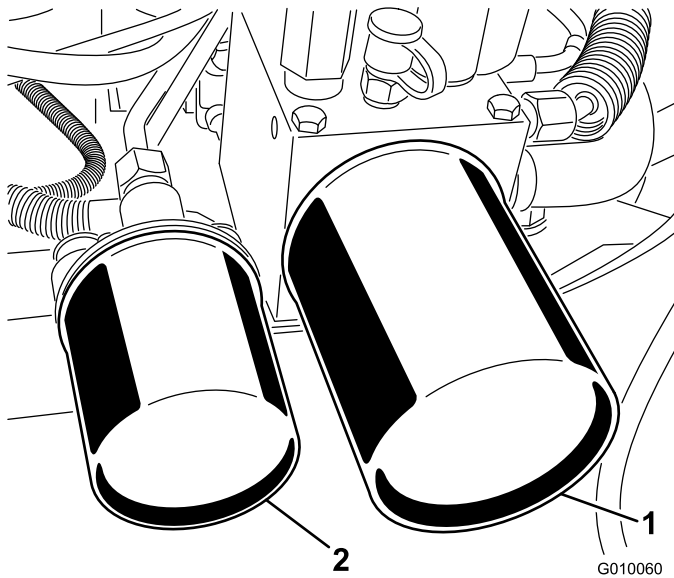

Figure 60
2. Place a drain pan under the filters, remove the old filters, and wipe the filter adapter gasket surface clean (Figure 60).